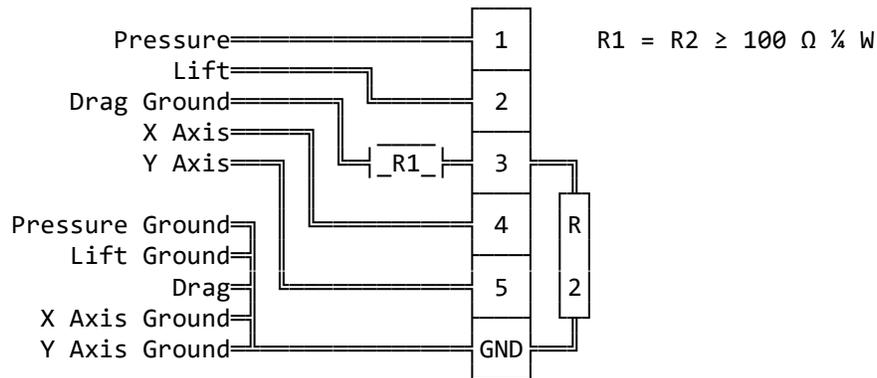

Figure 1: Analog to Digital Converter Wiring Diagram
4. If rewiring the DA-15 cable to the ADC-8U12 becomes necessary, refer to Figure 1.